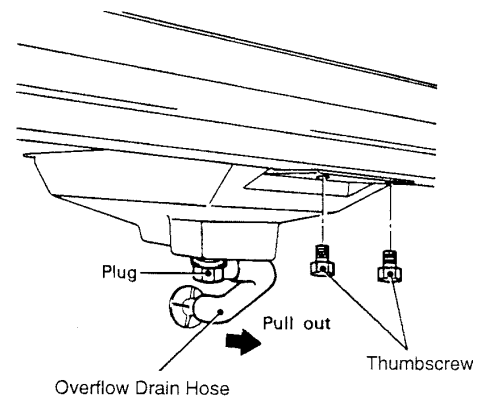

Fig. 3
4) Remove the plug at the bottom of the water tank to drain the tank. See Fig. 3. After draining, replace the plug in its correct position.
17) Remove the thermostat bracket and the water tank from the bin by removing the two thumbscrews for each at the top of the bin, and disconnect one end of the overflow drain hose. See Fig. 3.